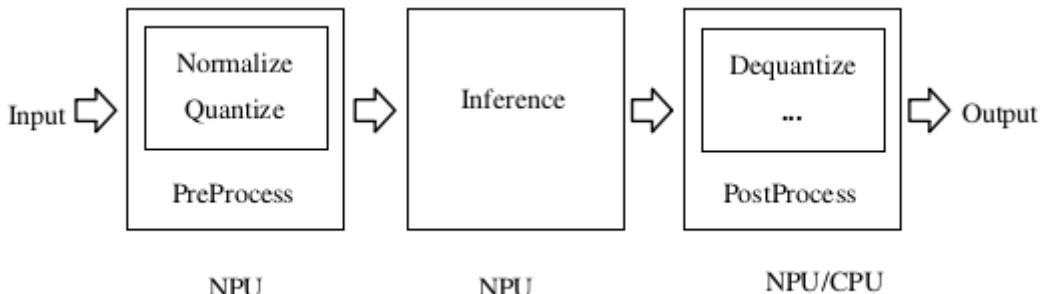

Figure 1-4 Data Processing Flow of the Zero-copy API
- Zero-copy API: The process is shown in Figure 1-4. It optimizes the data processing flow of the general API. Data normalization, quantization, and model inference are all performed on the NPU, while the data layout conversion and dequantization of the NPU output are executed on the CPU or NPU. The zero-copy API has higher efficiency in handling the input data flow. It supports obtaining data between different IP cores without data copying to reduce CPU and DDR bandwidth consumption. For example, data obtained through a camera or decoded data can be directly imported into the NPU by zero-copy API.